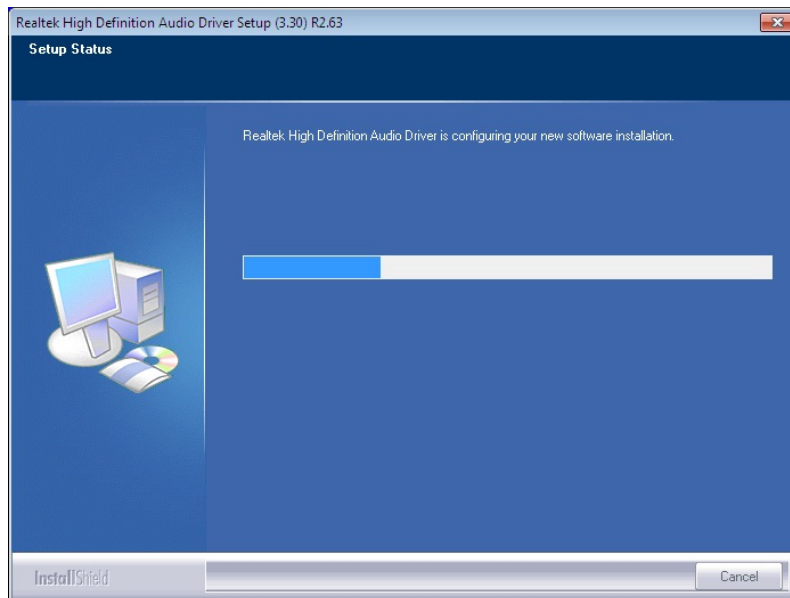

Figure 6-17: Audio Driver Installation
Step 9: The installation progress can be monitored in the progress bar shown in **Figure 6-17**.